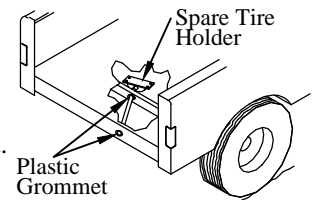

Figure 7: Spare tire access modification.
- 1. Remove** the plastic spare tire access grommet from the back of the truck box (Figure 7).
- 2. Remove** the plastic grommet in the rear cross member of the truck frame (Figure 7).